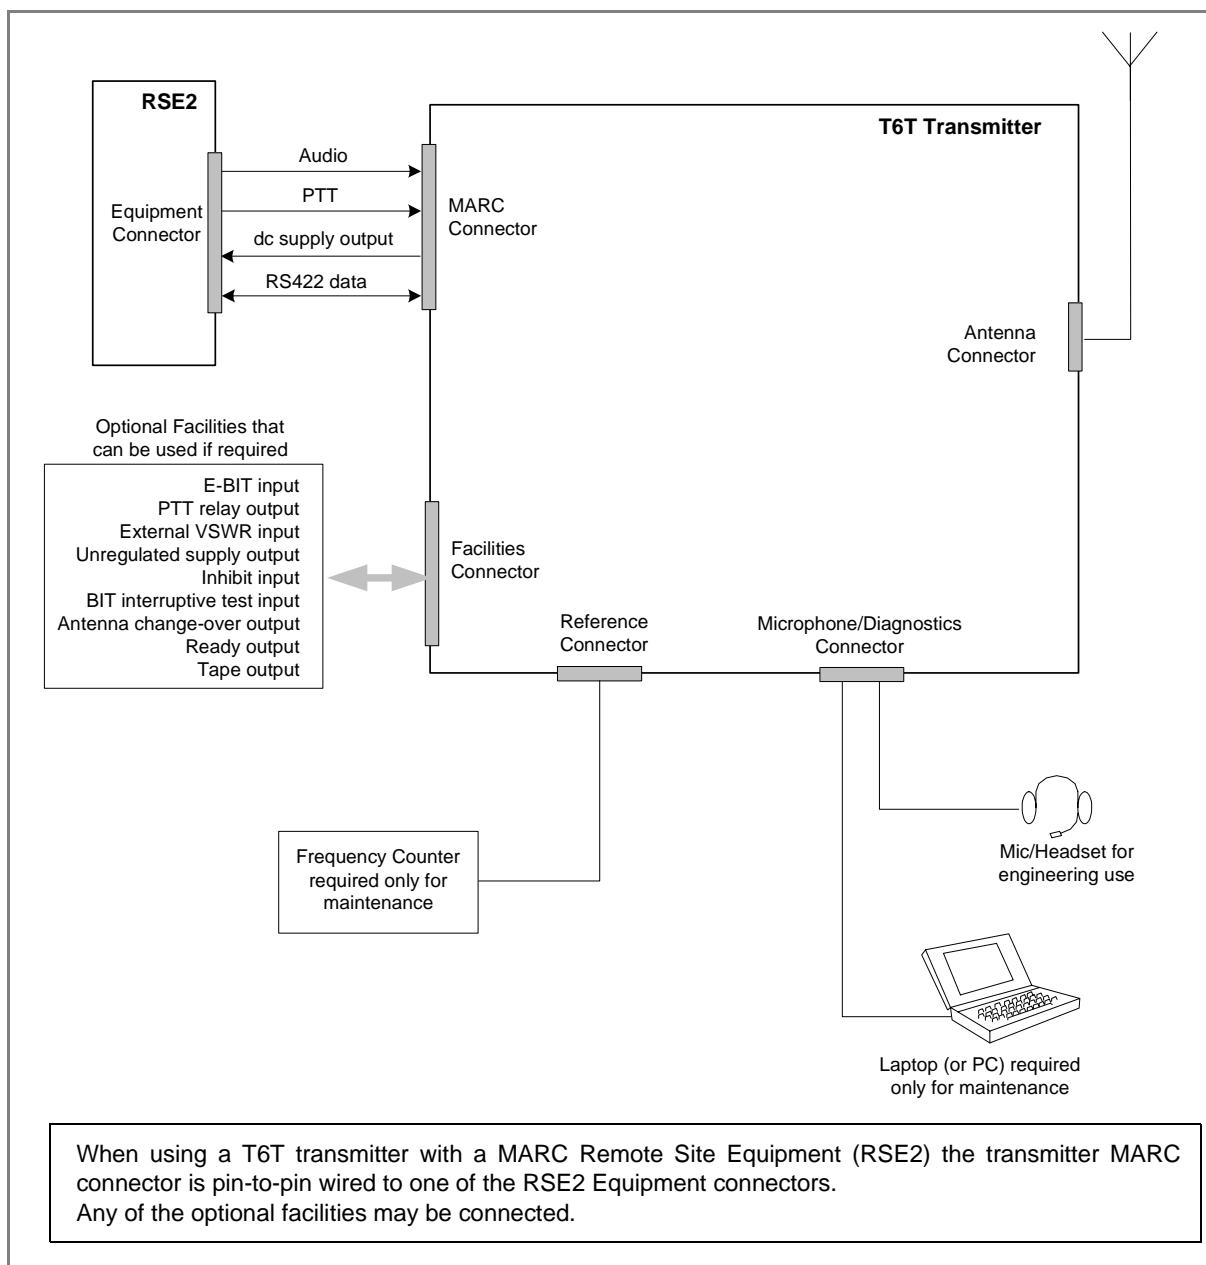

Fig 3 T6T Transmitter Configured for use with MARC
- T6T transmitter configured for use with MARC (see Fig 3).